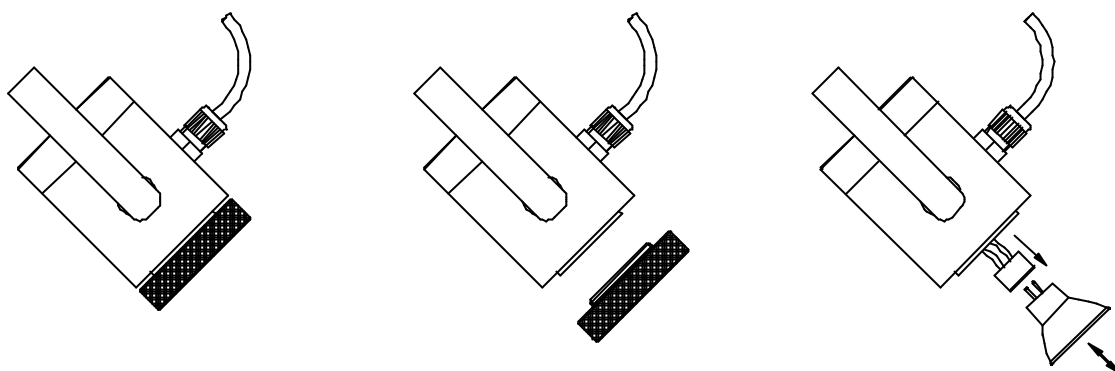

Figure 12 Changing the auxiliary lamp
4. Remove the protective filters by unscrewing the black ring at the front of the lamp barrel. Refer to figure 12.